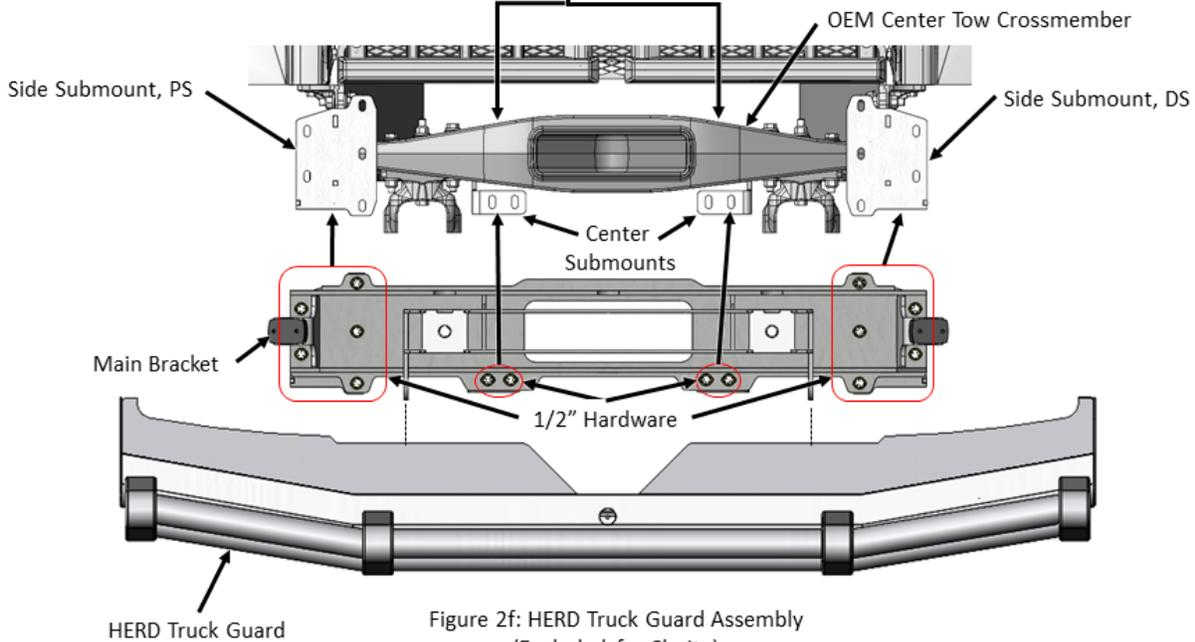

Figure 2f: HERD Truck Guard Assembly
6. Lift the Main Bracket and Truck Guard (opened) assembly and mount it to the truck's Crossmember; see Figure 2f. Fasten the Main Bracket to the HERD Side and Center Submounts using the provided 1/2" Hardware as shown in Figure 2f. **Torque the 1/2" Hardware to 96 ft-lb.**